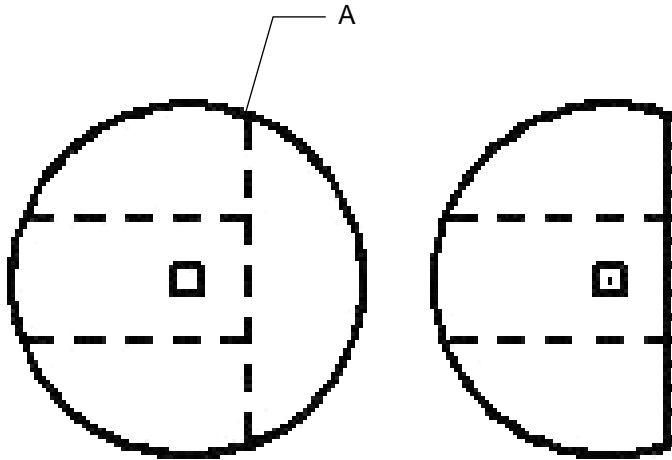

Figure 1
2. If your baler is not equipped with bale shaping pads you will need to drill a hole in the chamber directly behind and above the starting roll (Figure 1).
3. The mounting hole will be 3/4" (19mm) in diameter. Use a plastic pad (006-4641F) and place it into the baler to use as a template. The bottom edge of the pad will be placed 1" (25mm) up from starting roll and 2" (51mm) from the back of the bale chamber (Figure 1).